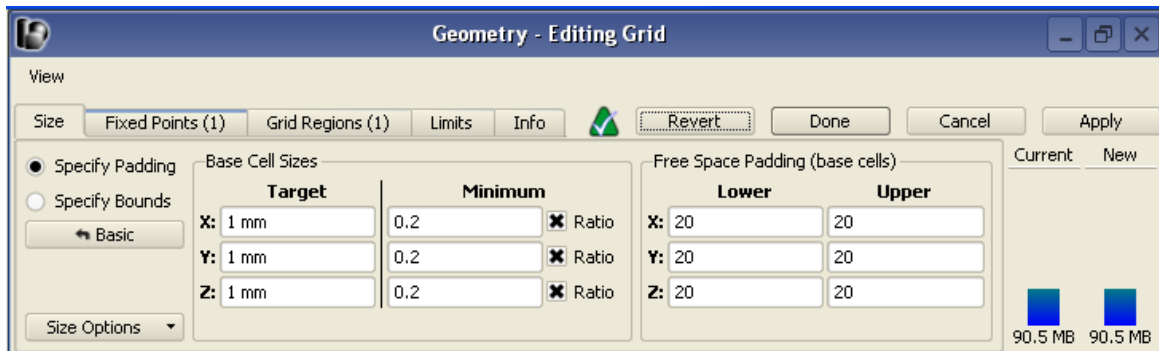
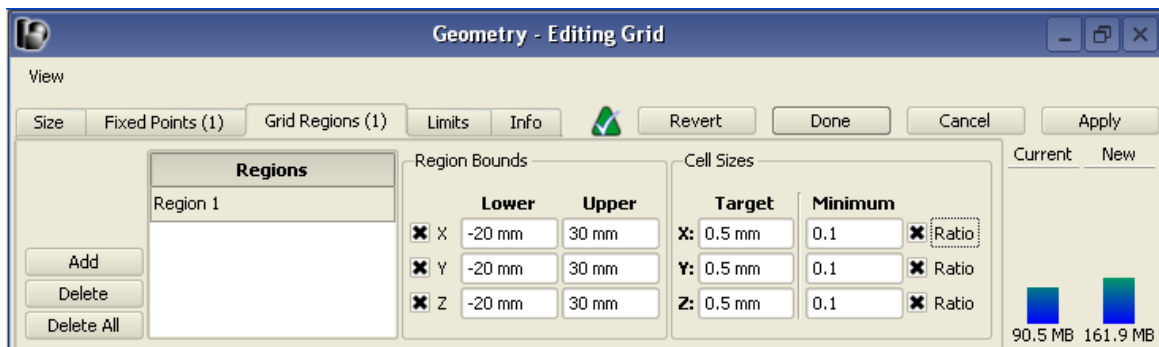

Figure B.3: Editing the grid with the Specify Padding option chosen
Figure B.4: Adding a grid region with a smaller cell size than the main grid
- Automatic fixed points are merged according to the minimum distance. The fixed point minimum distance can have different values at different points on the grid. There is a “main grid” fixed point minimum distance that is specified on the SIZE tab (see Figure B.3 above). Each grid region, including both manual and part grid regions, has its own fixed point minimum distance. The smallest fixed point minimum distance for a given point on the grid is chosen from all manual and/or part grid regions covering the given point. If no grid region covers the given point, the main grid fixed point minimum distance is chosen. Note that this allows grid regions to specify a minimum distance greater than the main grid fixed point minimum distance. Notice that in Figure B.4, a smaller minimum distance is specified in the grid region than that of the main grid.